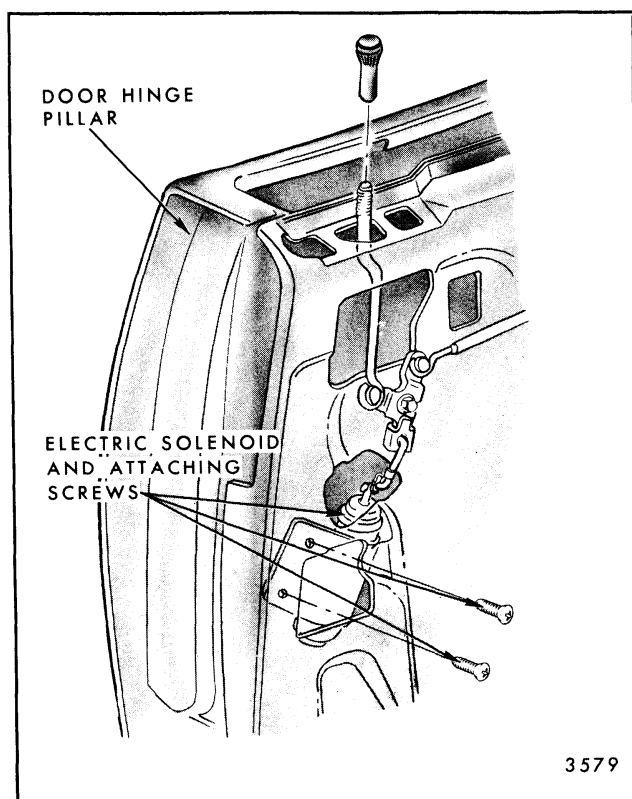

Fig. 5-35-Rear Door Lock Electric Solenoid Installation "B"
4. On rear doors, remove electric solenoid to door inner panel attaching screws and connecting rod to door inside locking rod connecting link attaching clip. Remove through access hole (Fig. 5-35).